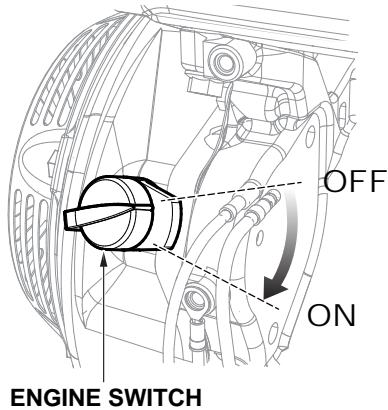

Figure 32. Engine ON/OFF Switch (ON)
- Place the engine ON/OFF switch in the **ON** position (Figure 32).